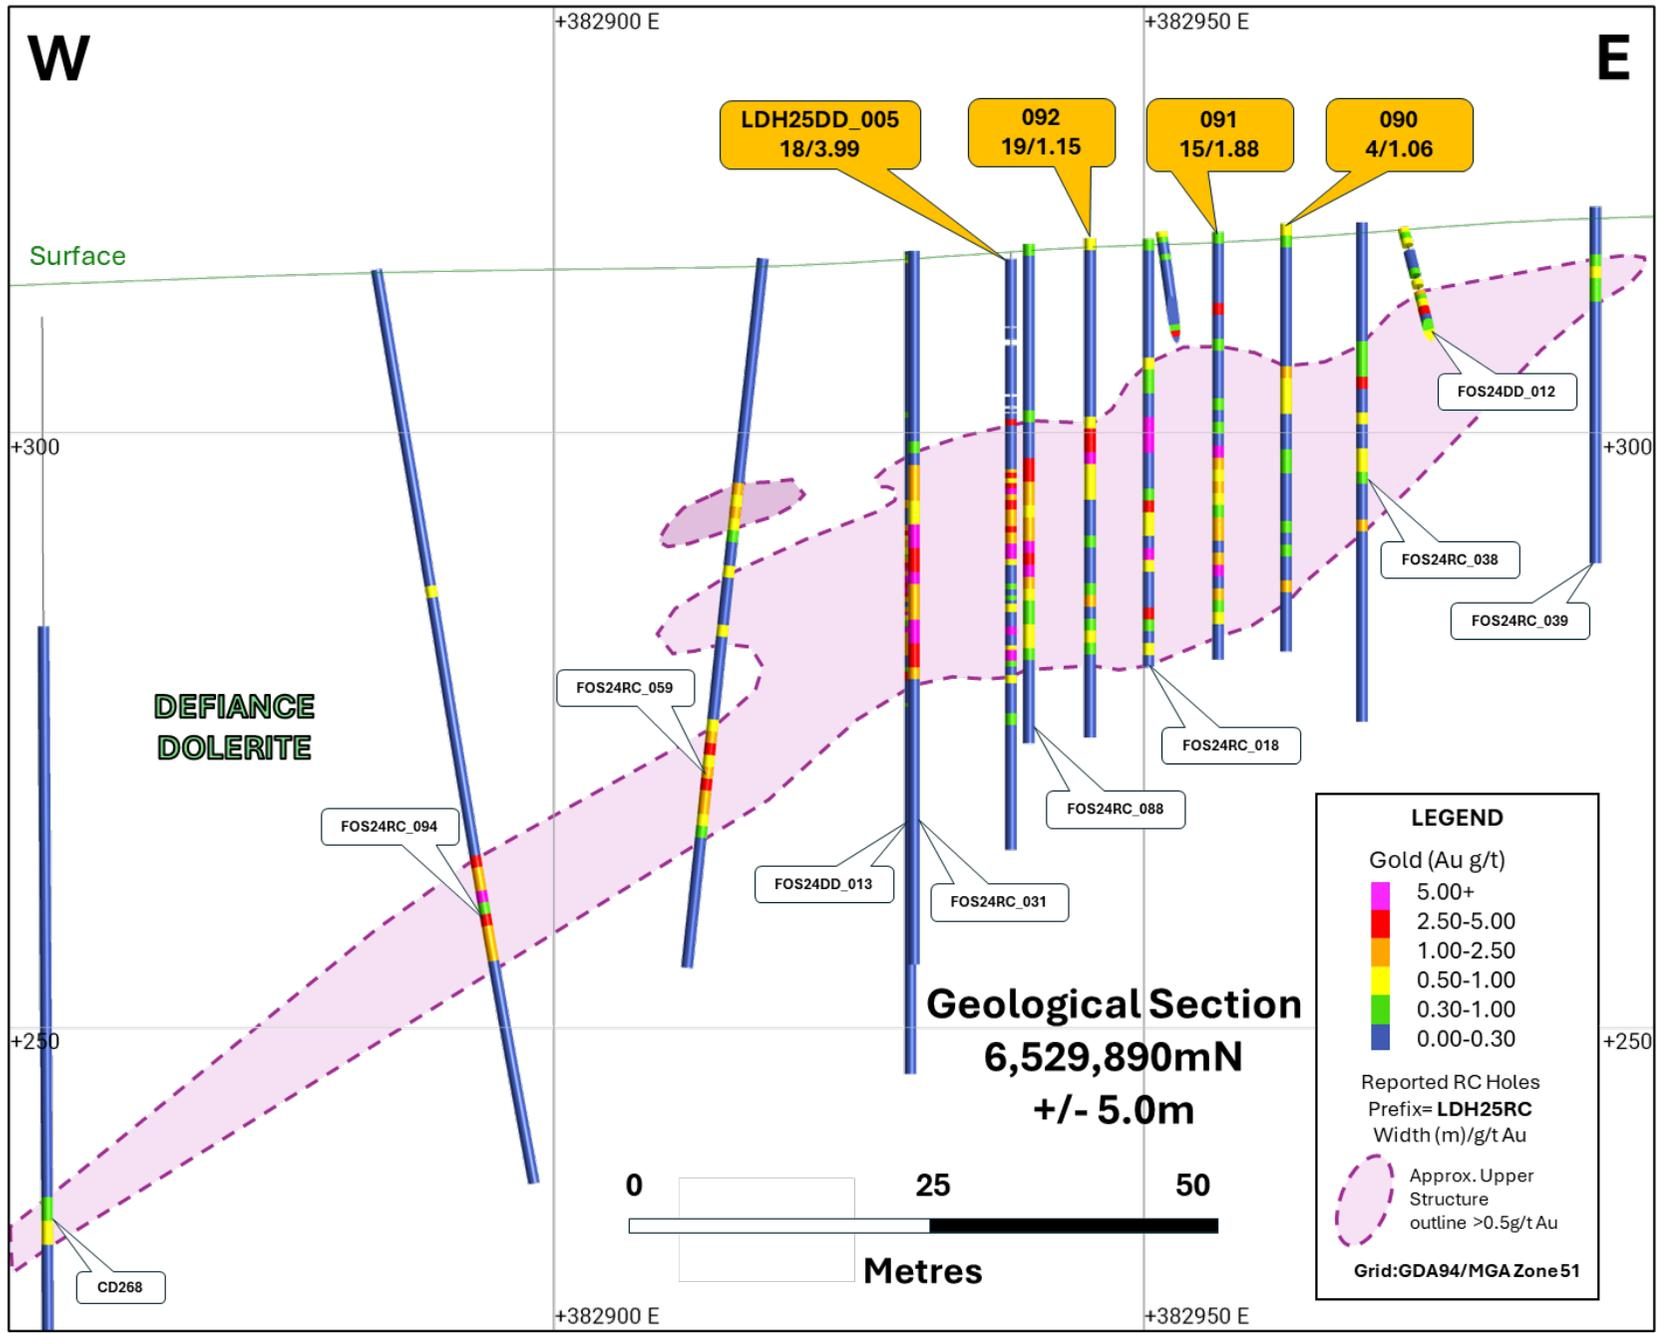

Figure 4: Geological cross section 6,529,890mN
- Figure 4: Geological cross section 6,529,890mN through the Upper Structure